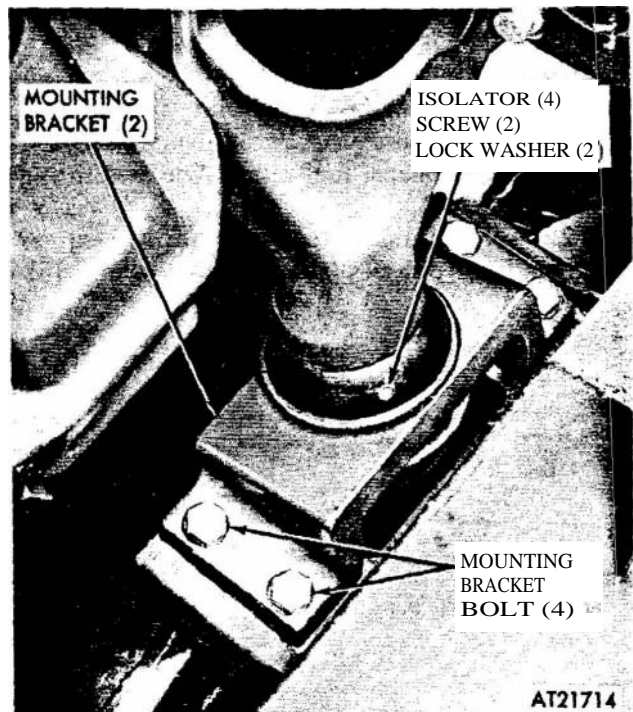

Figure 2-59. Front engine mount, typical.
(23) Attach lifting sling to engine lifting eyes, connect lifting sling to a suitable hoist, and apply a slight strain to power plant assembly.
(24) Remove four bolts, lock washers, and nuts securing two clutch housing (front) engine mounts to tractor hull (fig 2-59). Remove two bolts, lock washers, and nuts securing two rear engine mounts to isolators and tractor hull (fig 2-58).
(4) Insert four bolts, lock washers, and nuts into clutch housing engine mounts and tighten (fig 2-59).
(5) Relieve strain on engine and remove lifting sling.
(6) Torque the two rear mounting bolts to 55-65 **lbs-ft.**
(8) Remove two front engine mount adapters and isolators by removing bolts and lock washers (fig 2-59).